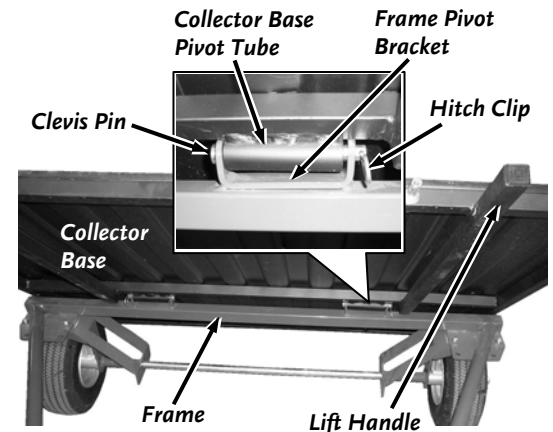

Figure 7
1. Position the Collector Base at the rear of the Frame and line up the Collector Base Pivot Tubes with the Frame Pivot Brackets. Secure the Collector Base to the Frame with two Clevis Pins (heads facing in) and Hitch Clips (**Figure 7**).